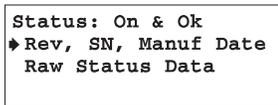

Fig 7-20 Intelligence Module Information Screen
**Line #3: Redundant Intelligence Module Diagnostic Menu Item** - This screen opens the redundant intelligence module information screen. It appears the same as figure 7-20.